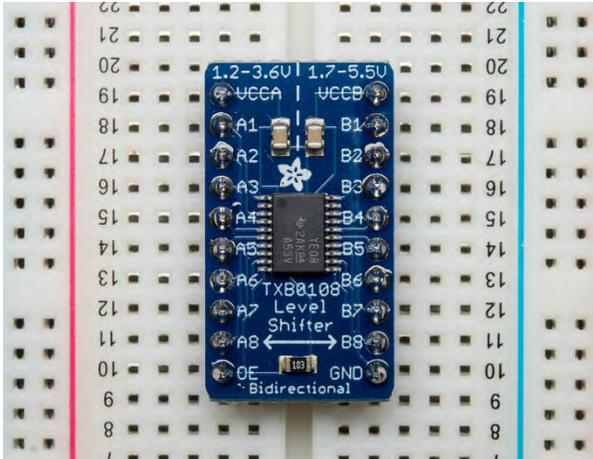

Figure 11.3.
3. Adafruit sells an 8-channel bi-directional logic-level converter module, part no. 395 \$US 8.00, shown in **Figure 11.3**. The bidirectional capability comes in handy when you must communicate in both directions between a 3.3V and a 5V logic device. For more information, visit: <http://www.adafruit.com/product/395>. The module comes with break-away pin headers. The IC used on this module cannot directly drive "heavy" loads such as LEDs. Adafruit recommends against using it for I2C communications, another form of serial signaling, but the company has an I2C-compatible module, too. Adafruit also sells the Texas Instrument SN74LVC245AN IC in a 20-pin DIP, part no. 735 (\$US 1.50). Find the data sheet here: <http://www.ti.com/lit/ds/symlink/sn74lvc245a.pdf>. I have not used this module.